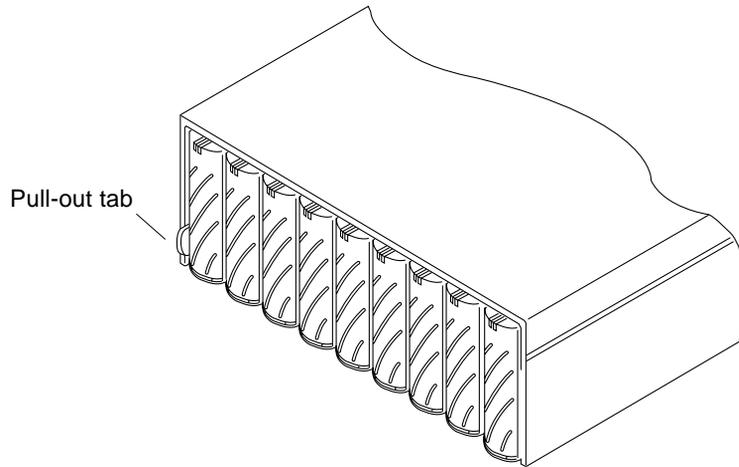

FIGURE 10-3 Location of Pull-out Tab with MAC Address
- **MAC address.** The MAC address is located in the pullout tab at the front of the disk tray (FIGURE 10-3).